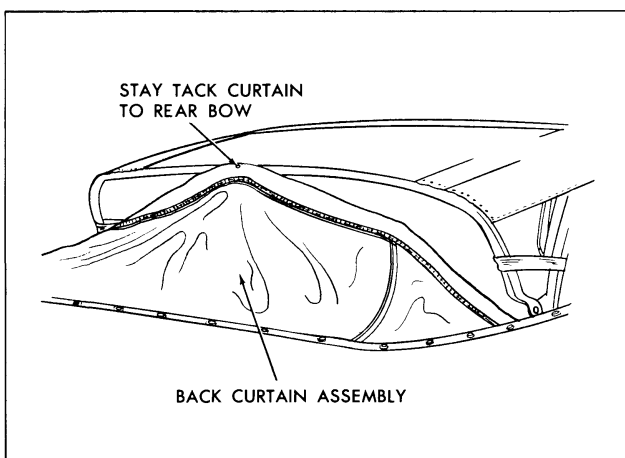

Fig. 21-26 Stay Tacking Back Curtain
14. Secure back curtain assembly with one tack to rear bow to prevent damage to plastic sheet (Fig. 21-26).